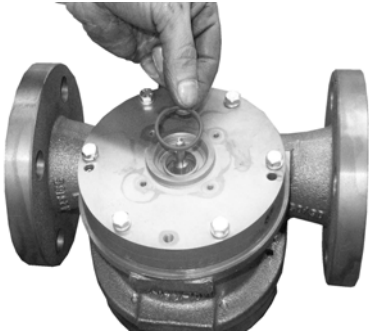

Figure 45
1. Clean O-ring groove in front cover and install new O-ring (Figure 45).